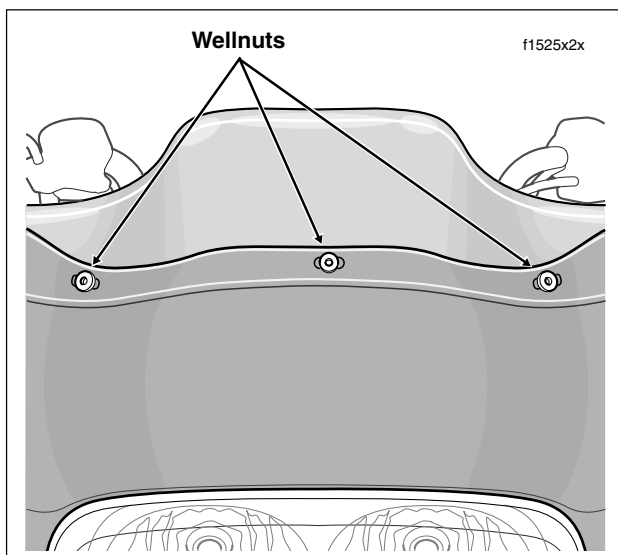

Figure 2-159. Remove Wellnuts From Outer Fairing
3. Carefully remove wellnuts from holes in outer fairing. See Figure 2-159. Exercise caution to avoid pushing wellnuts into fairing during removal. Inspect wellnuts for cuts, tears or signs of deterioration. Replace as necessary.